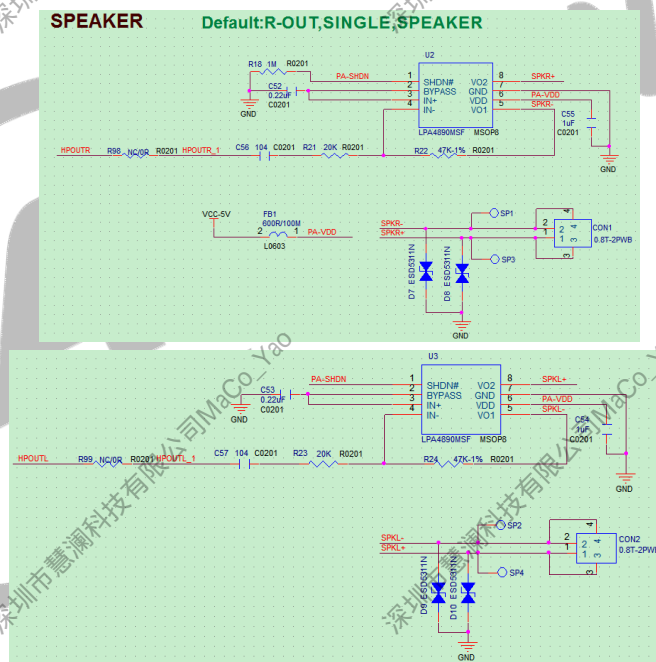

Figure 2-46 SPEAKER Circuit Design
- R818 supports the stereo dual speaker outputs. If the product is mono speaker output, please connect the power amplifier to the HPOUTR signal by default. Meanwhile, the power amplifier enabling signal needs to be connected to the pull-down resistors to GND by default to avoid the abnormal sound of the upper and downer speakers. During designing a power amplifier, pay attention to the selection of feedback resistors. The selection of the feedback resistor should refer to the specification of the power amplifier to avoid the excessive amplification factor, which may cause sound distortion. As shown in Figure 2-46.